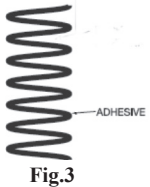

Fig.3
**When installing wider plank wood floors (4" and wider)** flooring movement due to seasonal changes may be reduced by utilizing both glue **and** the mechanical fasteners (nails/staples) specified. Do **NOT** use a moisture inhibitor with this application since glue assisted applications must have direct contact with the wood subfloor. Utilize a premium grade urethane construction glue (such as Liquid Nails® or Locktite® Urethane Wood to Wood Glue ) and apply glue in a serpentine fashion to the subfloor (see Figure 3).